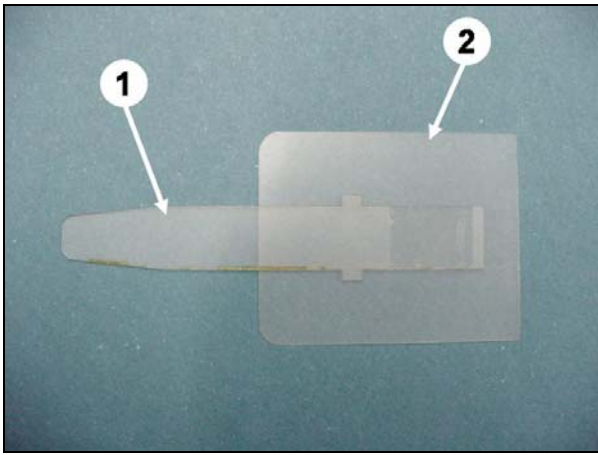
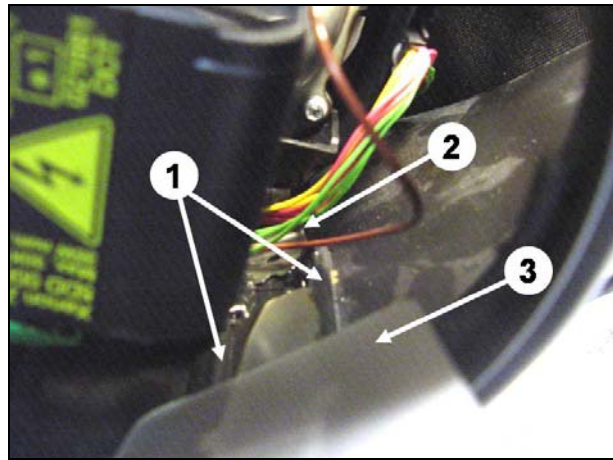

Figure 1 – Repair Film
Figure 2 – Inserting Repair Film
2. Insert repair film with guide film (Figure 1, 1) downwards between the two bars in the headlamp (Figure 2, 1)